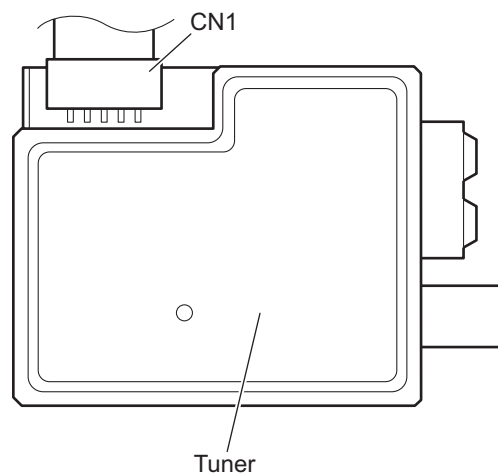

Fig.11
- (2) Disconnect the card wire from the connector **CN1** on the tuner. (See Fig.11.)